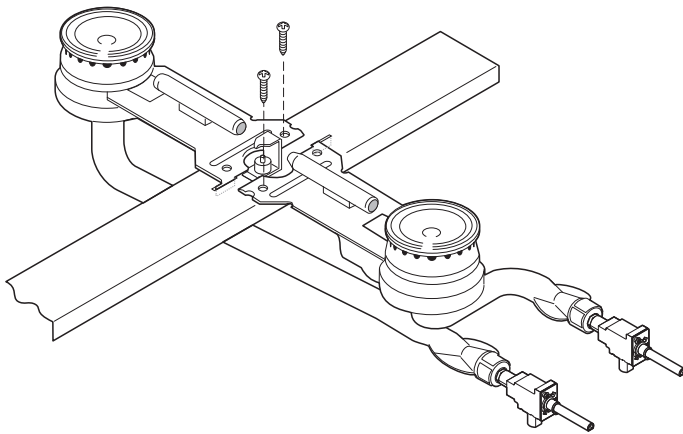

Figure 14: Burner shipping screws
1. Remove the shipping screws with a Phillips Head screwdriver. See Figure 14 for screw locations.